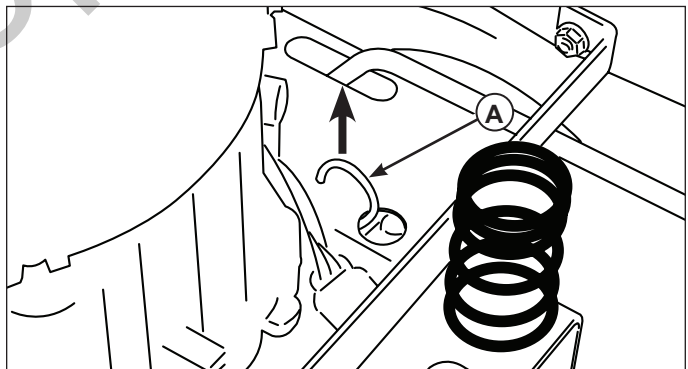

Figure 2. Roll Release Components (On Each Side)
2. To disengage the transmissions, pull the roll release rods (**A**, Figure 2), located on either side of the engine, up into the PUSH position.